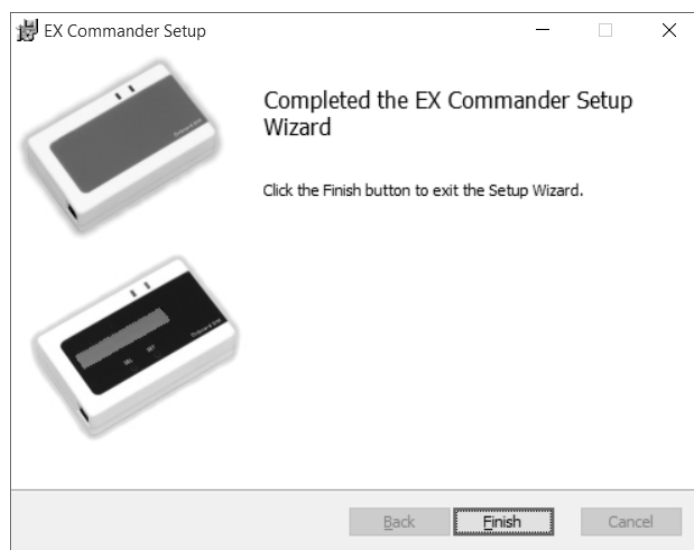

Figure 1.1.14 Setup Completed
7. The dialog shown in Figure 1.1.14 appears. Click <Finish>.